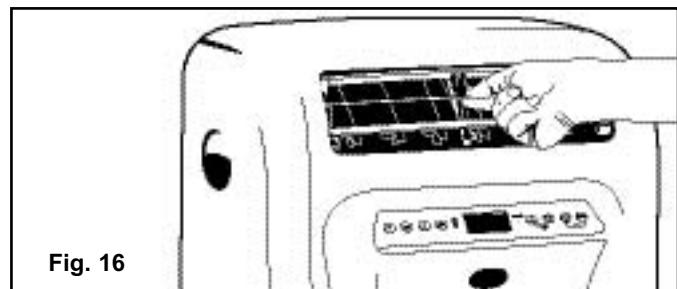

Fig. 16
- 4) Press the **FAN** key **Fig F (1)** to select the desired fan speed setting (**Auto-Low-Med-High**). Your selection will appear in the **display** window (each depression of the fan key will advance to a different setting).
- 5) Press the **SWING** key **Fig F (2)** to activate the automatic air swing (oscillating) feature and the swing symbol will appear in the display window (**Fig G**). To deactivate the air swing feature, press the **SWING** key again.
- 6) The horizontal louvers open and close automatically when the unit is switched on and off. To adjust "air flow" direction, (up / down only) adjust the center louver only up or down **Fig 16**.